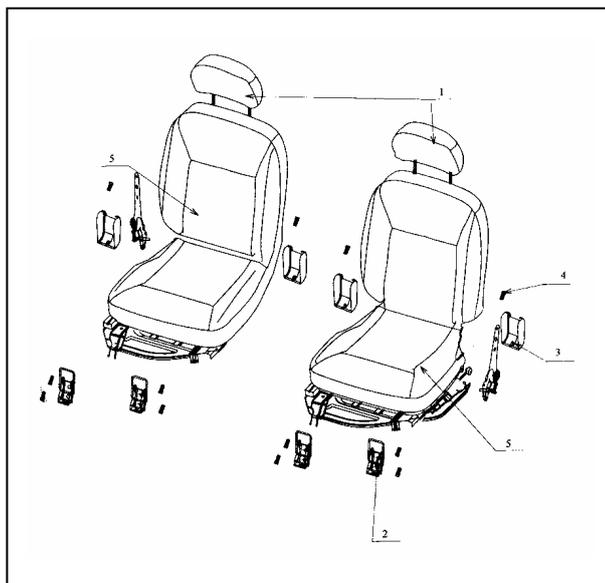

Fig. 19-3
(1) The removal sequence of driver' s (passenger' s) seat as shown in Fig.19-3:
- ①Remove the headrest
- ②Open the seat lock
- ③Dismount the luster
- ④Unscrew the bolts
- ⑤Dismount the seat
(2) The installation key sequence of driver' s (or passenger' s) seat